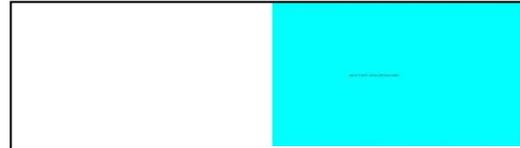

Figure. 122
Step 7: When the screen switches to Screen 2, please touch it. If screen 2 has no touch function, press “S” to skip it. (Figure. 122)